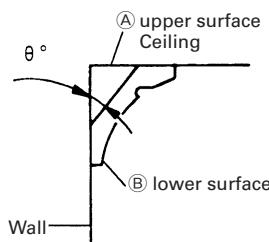
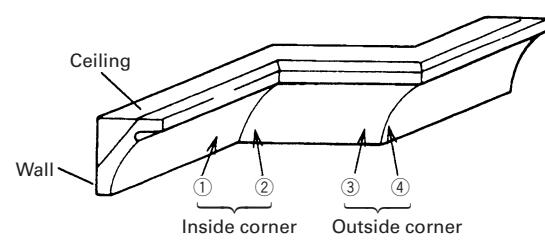
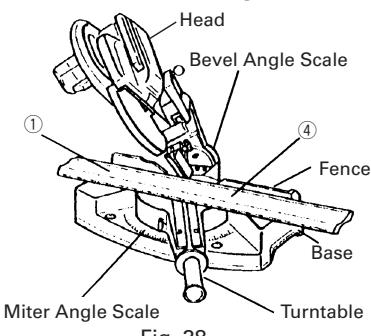

Fig. 35
Fig. 36
Fig. 38
Fig. 35 shows two common crown molding types having angles of (θ) 38° and 45°. For the typical crown molding fittings, see Fig. 36.
(1) Setting to cut crown moldings at positions ① and ④ in Fig. 36 (see Fig. 38; tilt the motor head to the left):
- ① Turn the turntable to the right and set the Miter Angle as follows:
- ② Tilt the motor head to the left and set the Bevel Angle as follows:
- ③ Position the crown molding so that the upper surface (Ⓐ in Fig. 35) contacts the fence as indicated in Fig. 40.
(2) Setting to cut crown moldings at positions ② and ③ in Fig. 36 (see Fig. 39; tilt the head to the left):
- ① Turn the turntable to the left and set the Miter Angle as follows:
- ② Tilt the head to the left and set the Bevel Angle as follows:
- ③ Position the crown molding so that the lower surface (Ⓑ in Fig. 35) contacts the fence as in Fig. 41.
(3) Setting to cut crown moldings at positions ① and ④ in Fig. 36 (see Fig. 42; tilt the head to the right):
- ② Tilt the head to the right and set the Bevel Angle as follows:
- ③ Position the crown molding so that the upper surface (B) in Fig. 35) contacts the fence as indicated Fig. 44.
(4) Setting to cut crown moldings at positions ② and ③ in Fig. 36 (see Fig. 43; tilt the head to the right):
- ③ Position the crown molding so that the lower surface (A) in Fig. 35) contacts the fence as in Fig. 45.